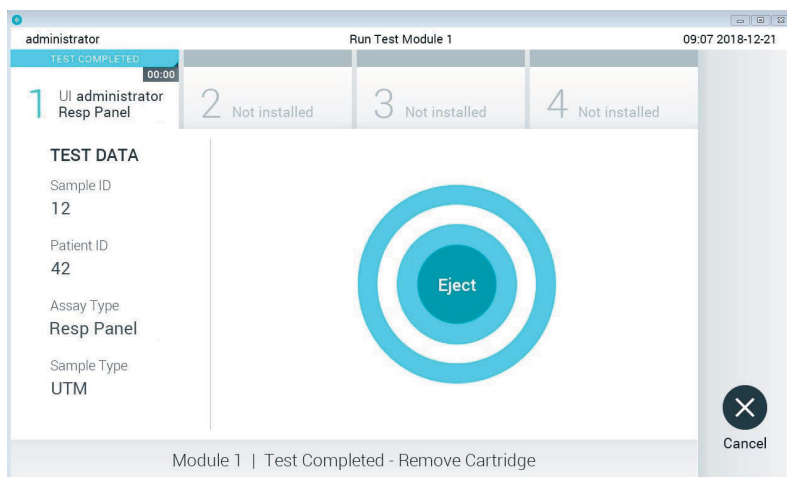

Figure 29. Eject screen display.
22. After the test run is completed, the **Eject** screen will appear (Figure 29, next page) and the Module status bar will display the test result as one of the following options: